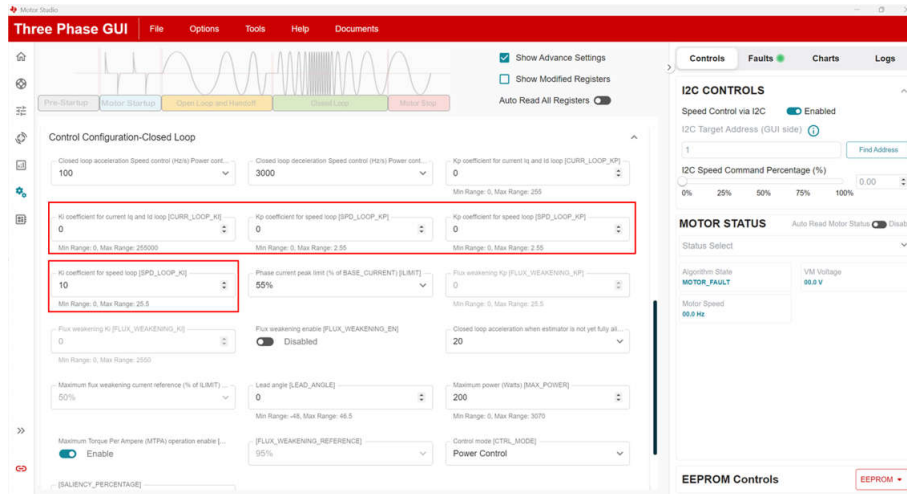

Figure 4-4. HW_LOCK_LIMIT
1. Using the fields circled in Figure 4-4, set SPD_LOOP_KP, SPD_LOOP_KI, CURR_LOOP_KP, and CURR_LOOP_KI to zero. This enables the MCF8329HS to automatically calculate the speed loop and current loop PI controller gains.